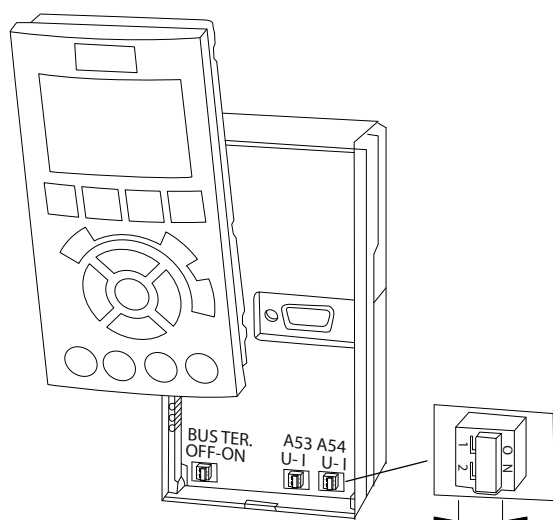

Figure 5.23 Location of Terminal 53 and 54 Switches
- A switch (BUS TER) is provided on the control card for bus termination resistance. See *Figure 5.23*.